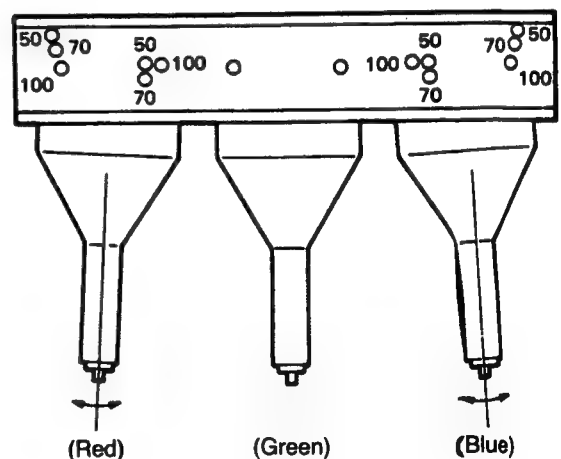

Fig. 43
- (5) Adjust the position of the Red and Blue CRTs for the desired projection size as shown in Table 5 and Fig. 43.